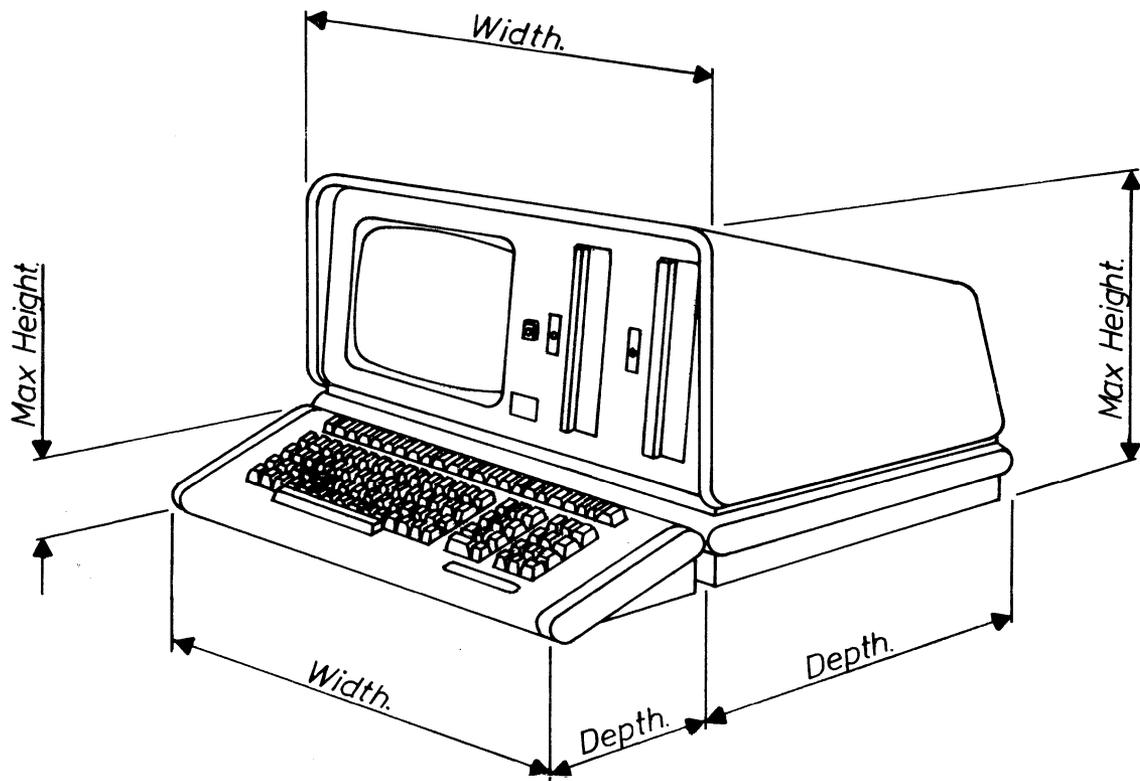

FIG 10/1
10.9.4 Mechanical Dimensions (Refer to Figure 10/1)